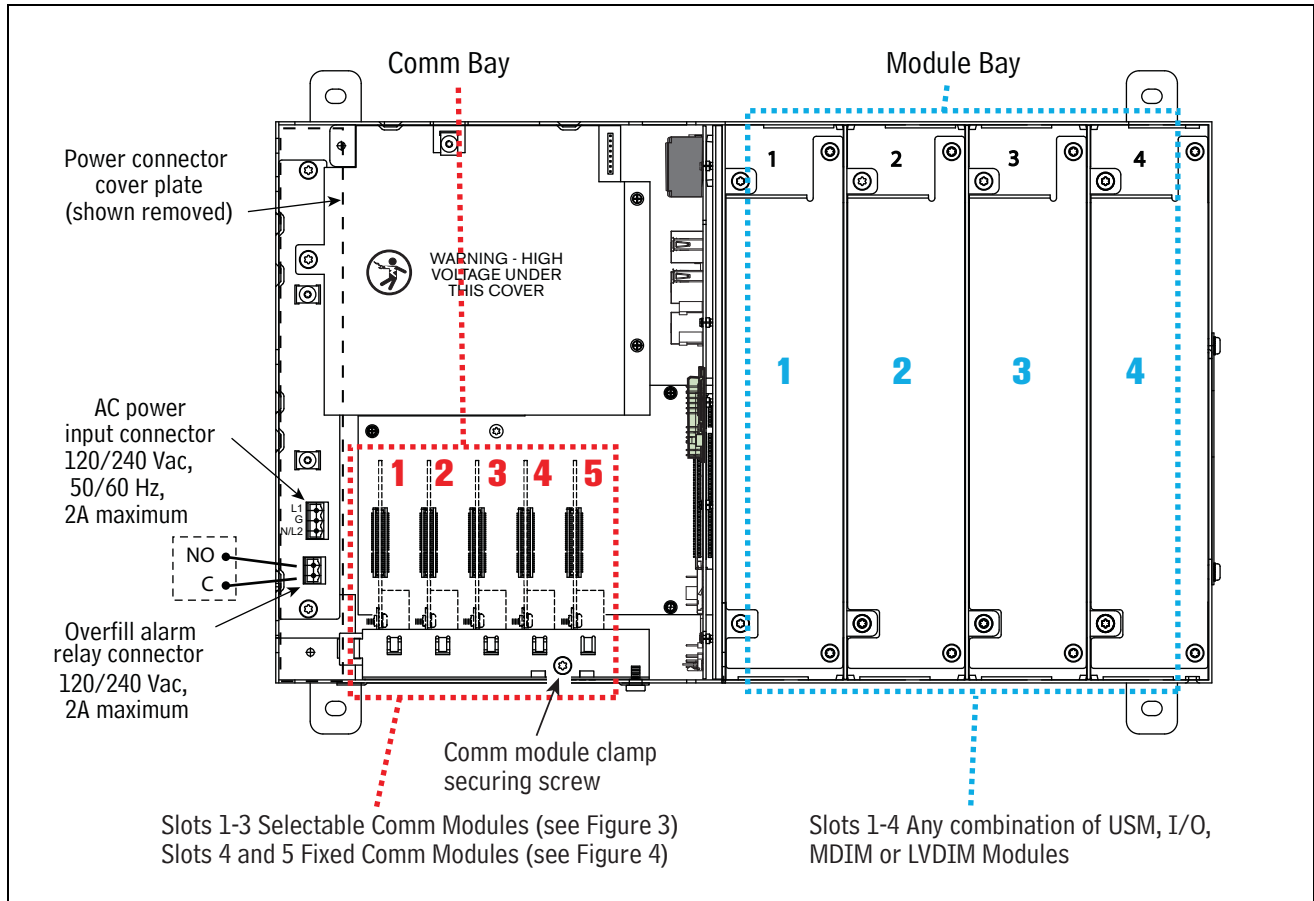
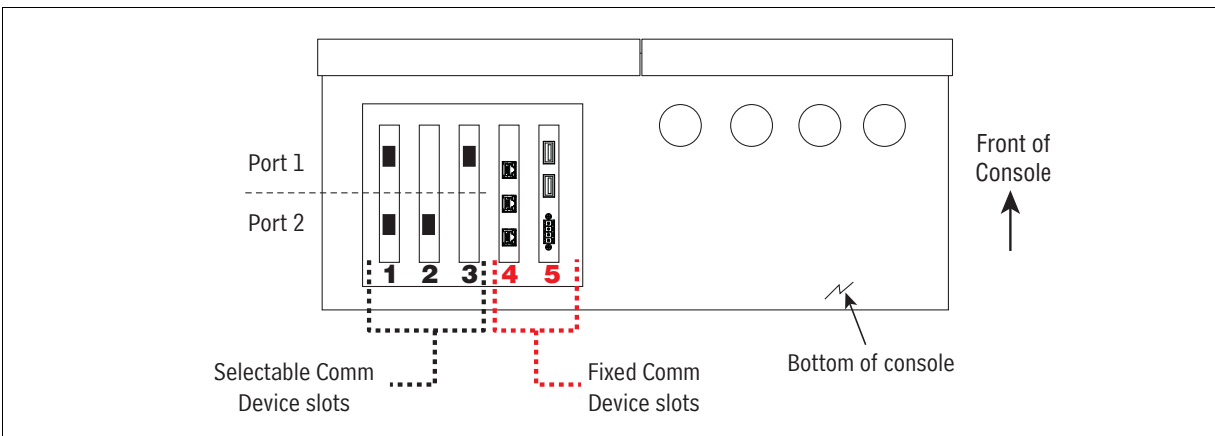
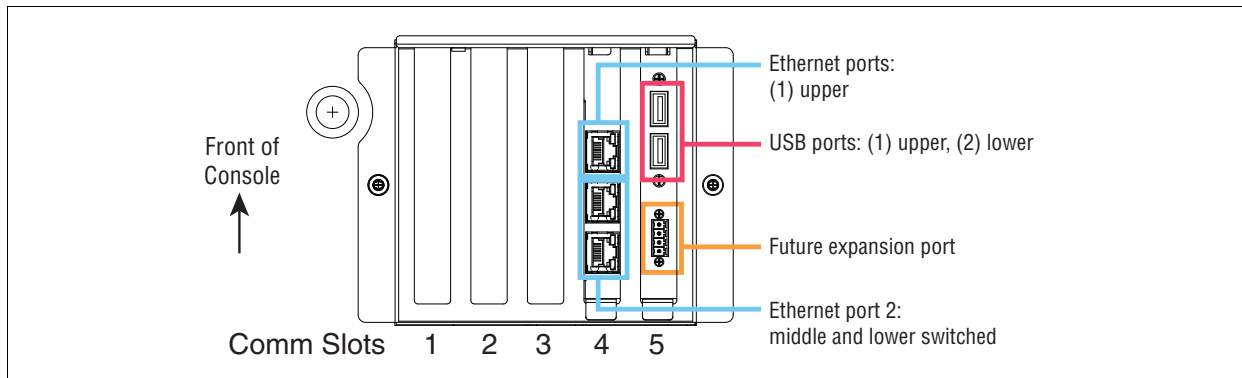

Figure 2. TLS-450PLUS Console - Plug-In Module Bays
Figure 3. TLS-450PLUS Console - Selectable Comm Modules
Figure 4. TLS-450PLUS Console - Fixed Comm Modules
The TLS-450PLUS doesn't have pre-assigned slots for the Module bay modules so use any of the four slots to accommodate intrinsically safe (USM) or non-intrinsically safe (I/O, MDIM, etc.) modules (see Figure 2). Since the Module Bay modules can be installed in any of these 4 slots, install them where it makes the most sense for conduit connections. Caution! USM wiring inputs are intrinsically safe and conduit containing this wiring must attach to the knockouts above or below the slot in which the USM module(s) is installed.
1. Figure 2 illustrates acceptable non-intrinsically safe module positions in the Module Bay of the console. After installing the I/O, MDIM or LVDIM module, remove the connector from the module, loosen the screw, insert the wires and tighten well.
1. The Comm Bay is divided into 5 communication slots numbered from 1 to 5 going from left to right (see Figure 2). Only slots 1-3 are available for user-selectable Comm modules (Figure 3). Slots 4 and 5 are fixed and can not be changed (see Figure 4).
2. Important, to avoid attaching a Comm cable to a non-configurable (NC) port, identify the configurable (C) ports of any Comm module being installed by referring to Table 1. Also verify the Comm cable port connections to Comm modules in slots 4 and 5. Record all Comm port connections for use at setup.
3. Using a T-15 Torx driver, loosen the screw securing the comm module clamp until you can remove the clamp (see Figure 2).
1. With the left of the console open, remove the two screws that attach the power connector cover plate (see Figure 2).